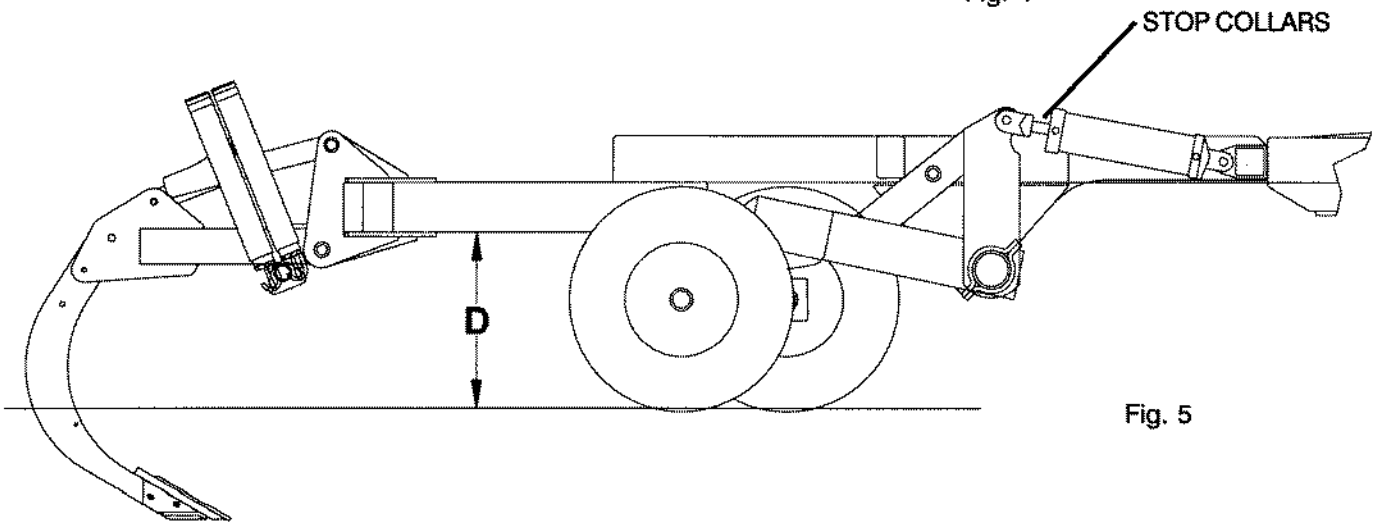

Fig. 5
7. The depth of the main frame is set by use of stop collars on the main lift cylinders (See Fig. 5). A limited number of collars are provided with the cylinder, additional can be obtained from the dealer.